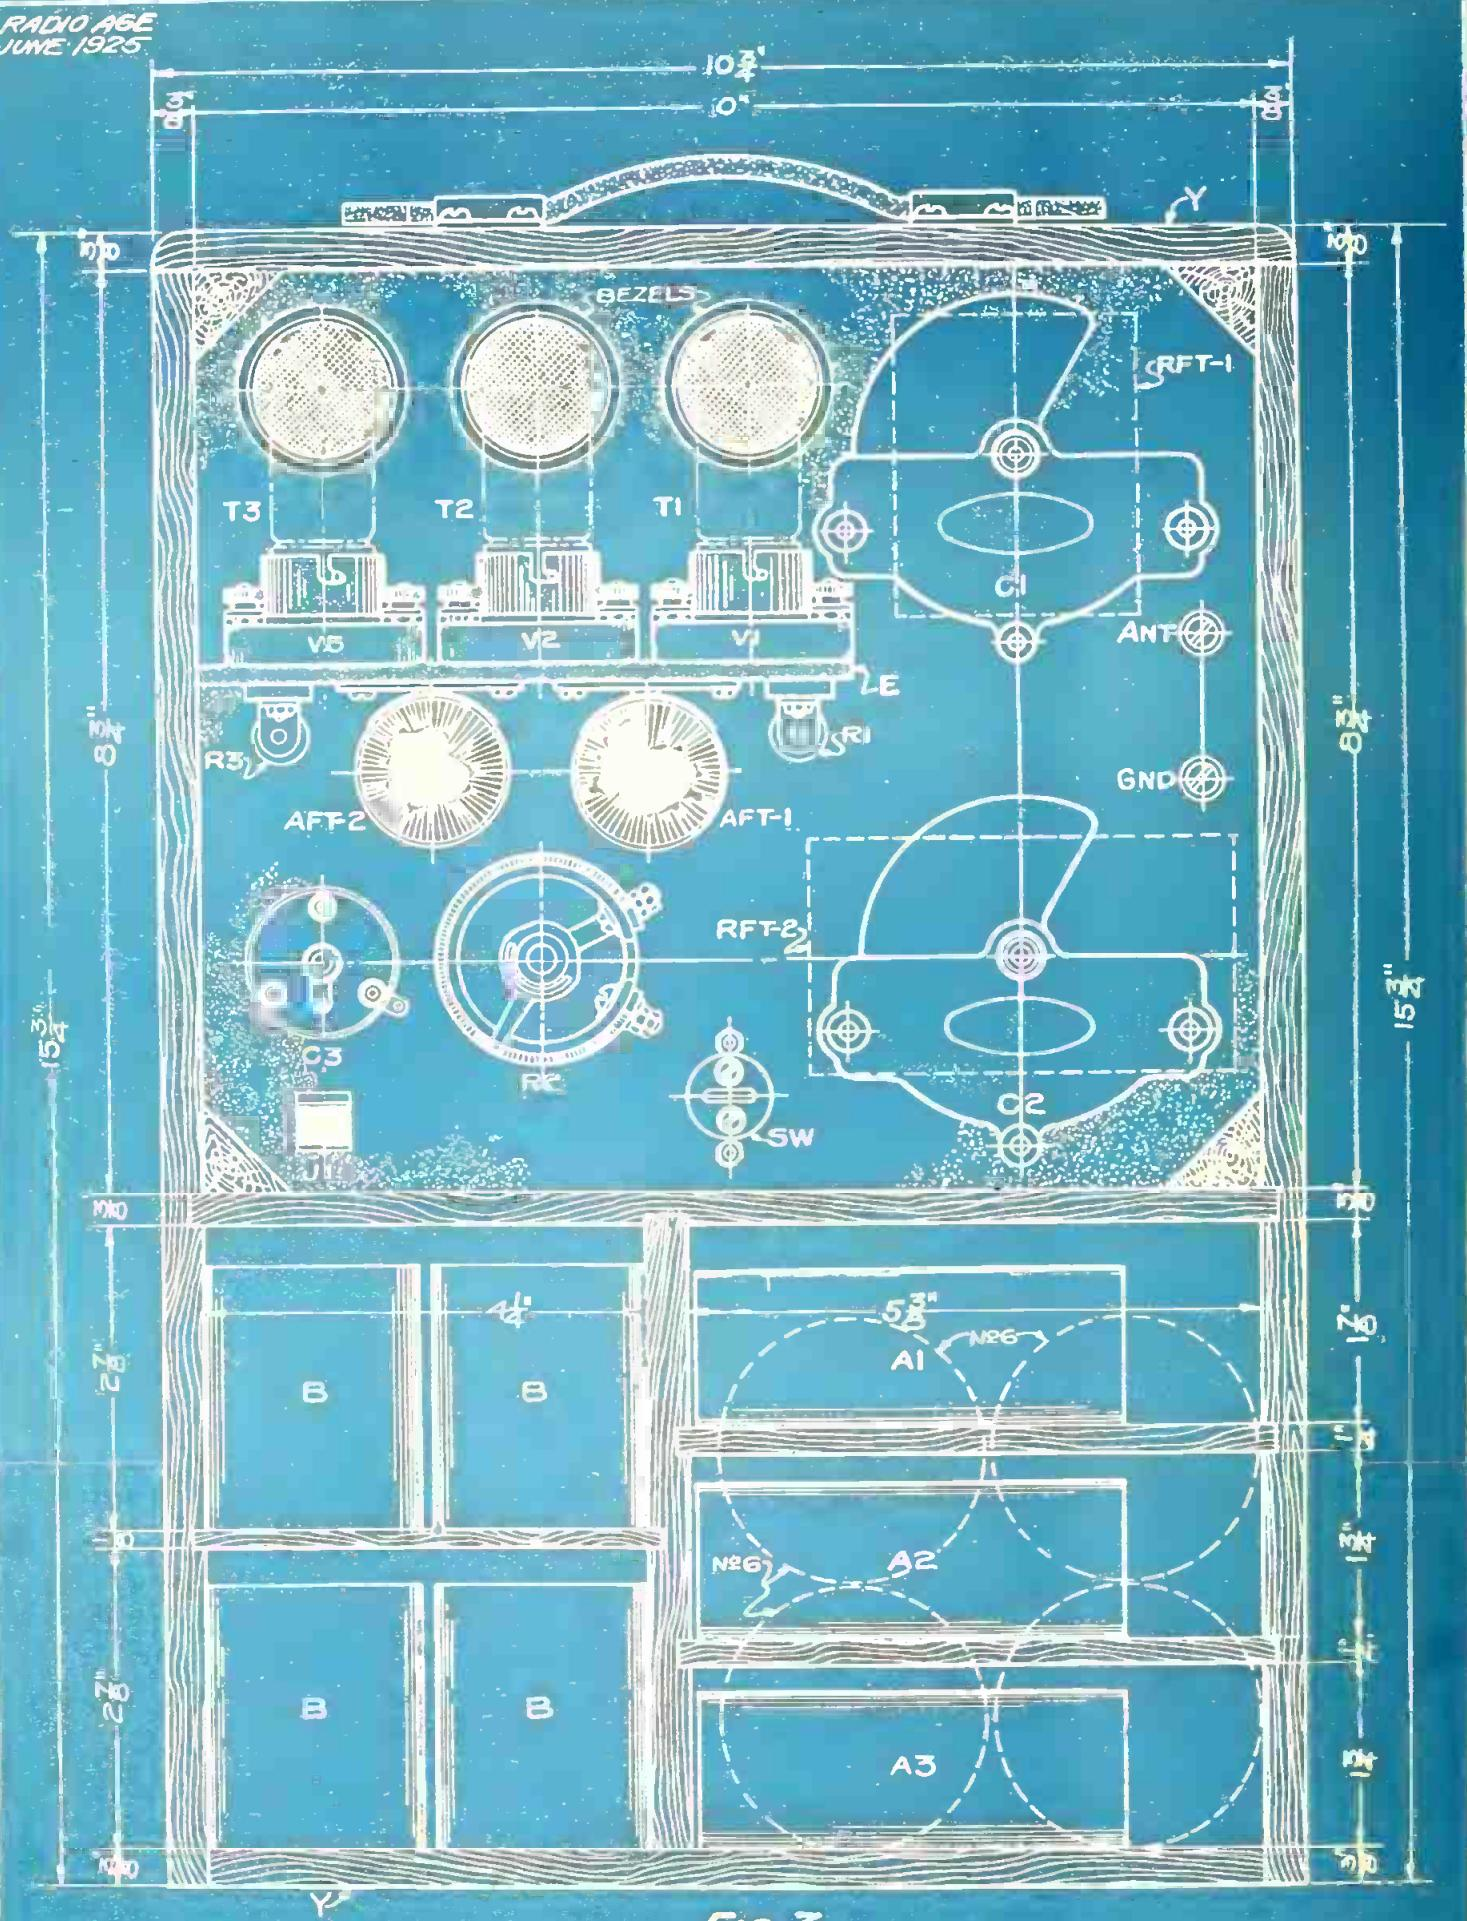

FIG. 3
Fig. 3 is a rear elevation of the set with the back panel removed and shows how the parts are assembled, ready for wiring. The three tubes and sockets are mounted on the top of the shelf (E) while the audio transformers are hung underneath. This not only saves room but it also shortens and simplifies the wiring. Of course, machine screws must be used for this assembly instead of the more usual wood screws, as all parts are fastened to bakelite. The shelf is attached to the panel by means of the small brass angle brackets (S) which can be made at home or purchased at almost any radio store.